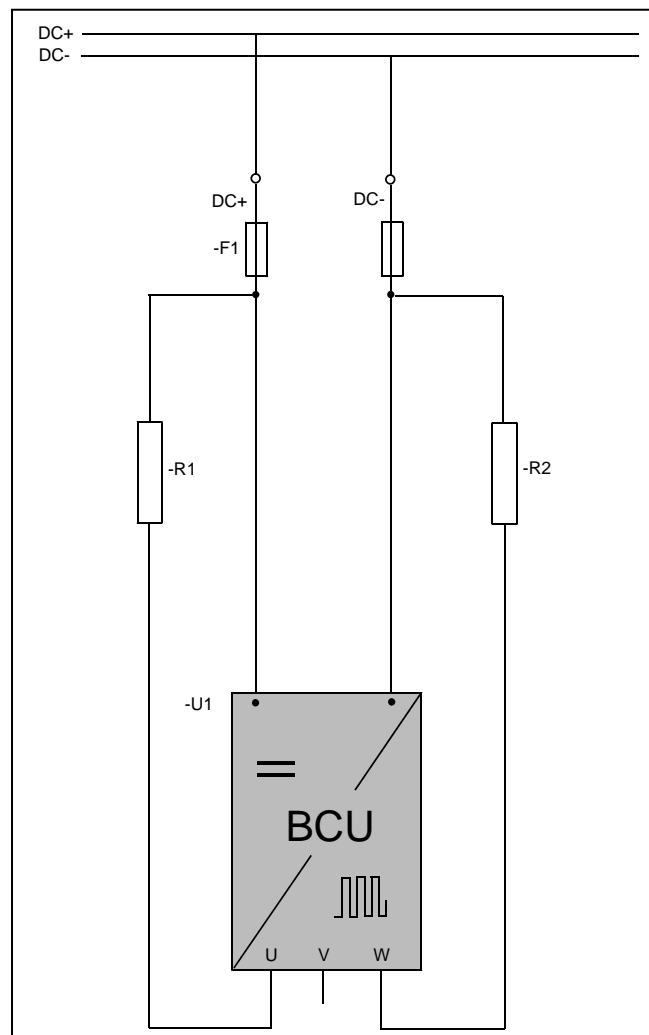

Figure 3. Resistor connections
1. Check installations (see Figure 3, Table 2-1 and Table 2-2).